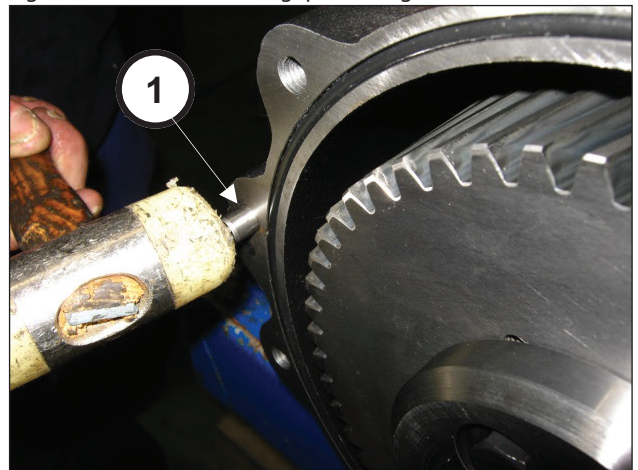
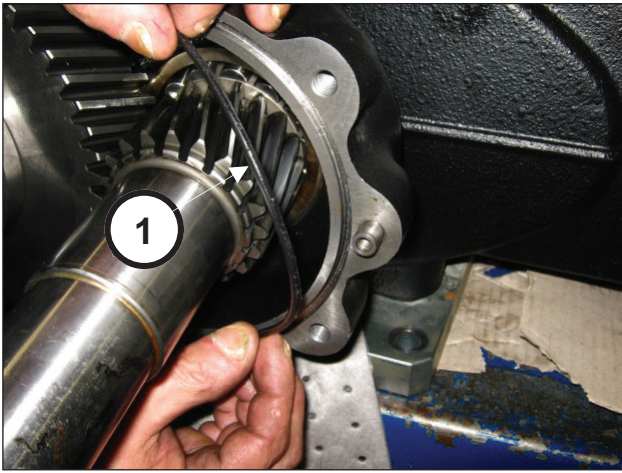

Fig. 70
Fig. 71
Apply the 2  $\varnothing 10 \times 24$  pins on the reduction gear box (pos. ①, Fig. 70) and insert the O-ring (pos. ①, Fig. 71).